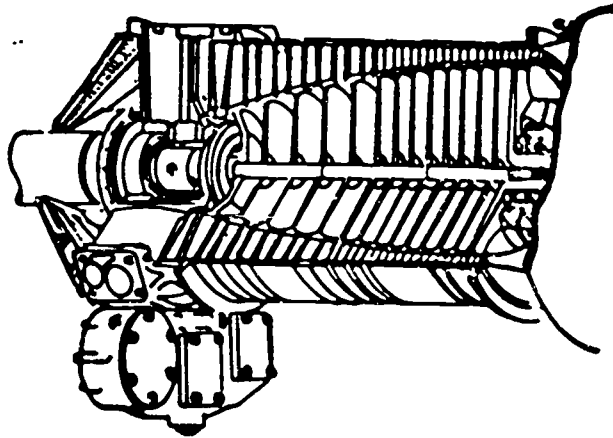

Figure 10. Accessory Case.
5. Accessory Section (Figure 10)